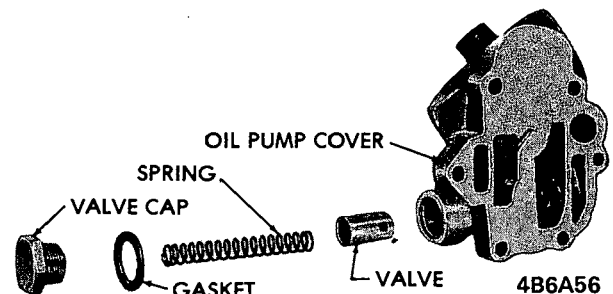

Figure 6A-103 - Oil Pump Cover and Pressure-Relief Valve
4. Remove the oil pressure relief valve cap, spring and valve. See Figure 6A-103. Oil filter by-pass valve and spring are staked in place and should not be removed.